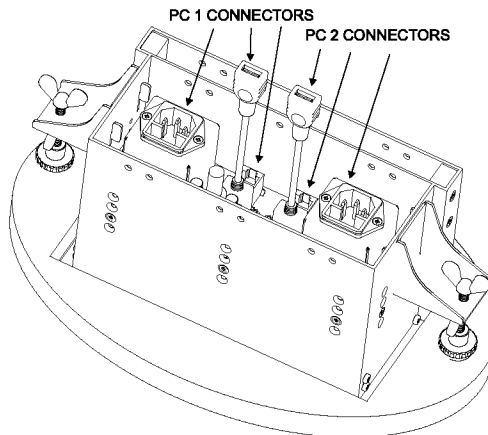

Figure 7: Connecting the Cables
1. Insert the cables into their appropriate connectors from underneath (see *Figure 7*).